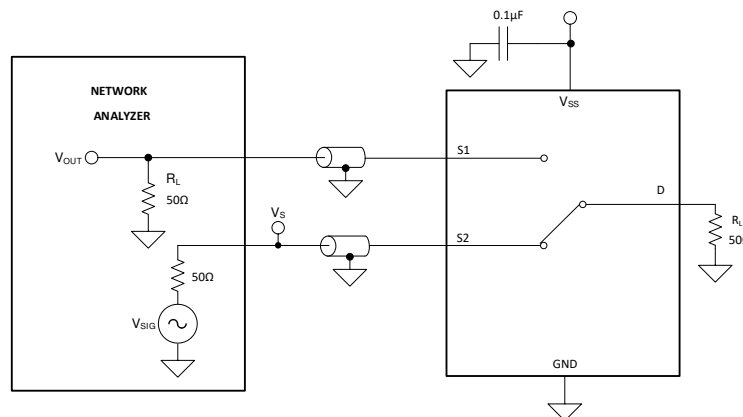

图 7-10. Crosstalk Measurement Setup
Crosstalk is defined as the ratio of the signal at the drain pin (D) of a different channel, when a signal is applied at the source pin (Sx) of an on-channel. 图 7-10 shows the setup used to measure, and the equation used to calculate crosstalk.